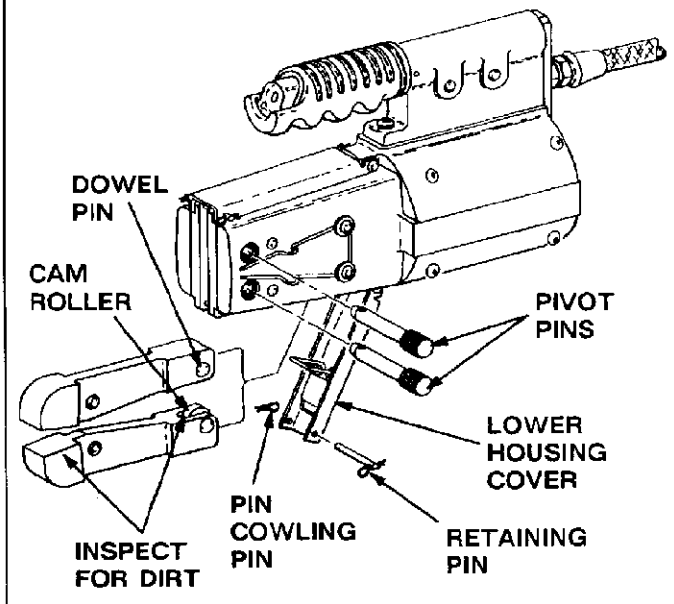

Fig. I-1
AMP Jaw Assembly 68257-1 (Figure I-1) is designed to be installed in AMP Pneumatic Tool 68068- ( ) and terminate AMP TERMI-FOIL\* Double Face Parallel Splice 53612-4 and TERMI-FOIL Double Face End Tap Splice with Barrel 53660-4. The splices are illustrated in Figure I-2. Read these instructions thoroughly before attempting to install the jaw assembly.
2. Inspect the jaw assembly closure surfaces, bottoming surfaces, and cam rollers for deposits of dirt or other foreign particles, and wipe with clean cloth. Refer to Figure I-1. Relubricate cam rollers as instructed in Paragraph II-2, LUBRICATION.
4. Pull one cowling pin and remove retaining pin from lower housing cover. Cover will swing open. See Figure I-1.
5. Remove pivot pins as shown in Figure I-1.
6. Position jaw as shown in Figure I-1.
2. Refer to Figure I-1. Pull cowling pin and remove retaining pin from lower housing cover. Cover will swing open.